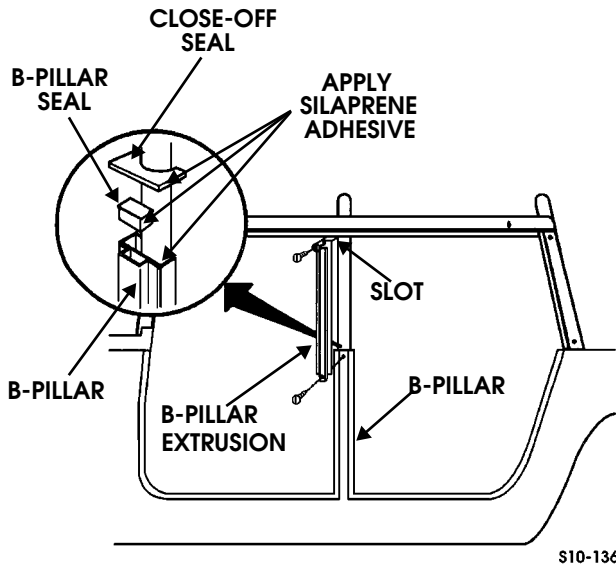

Figure 10-142: B-Pillar and Close-Off Seal Installation
5. Coat mating surfaces of close-off seal and B-pillar seal with silaprene adhesive and install seals on B-pillar (Figure 10-142).